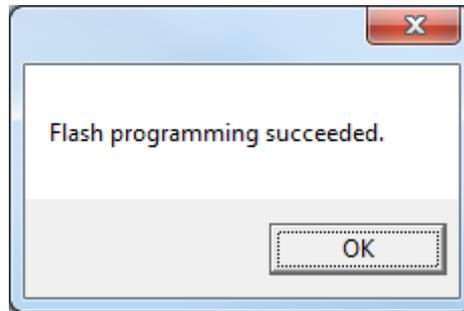

Figure 7. Flash write success Window
11) Click the “OK” button to finish writing, as shown in Figure 7.